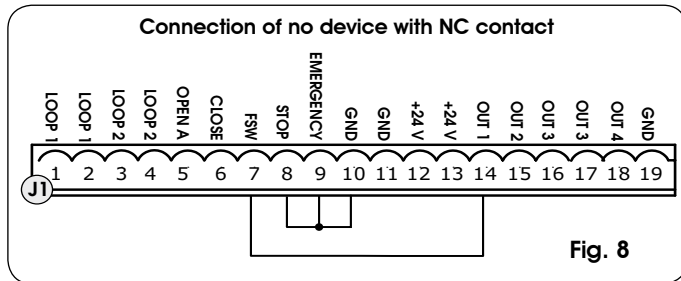

Fig. 8
**If closing safety devices are not connected, jumper connect the FSW and OUT1 terminals (fig. 8).**
**If stop safety devices are not connected, jumper connect the STOP and GND terminals (fig. 8).**
**If emergency safety devices are not connected, jumper connect the EMERGENCY and GND terminals (fig. 8).**